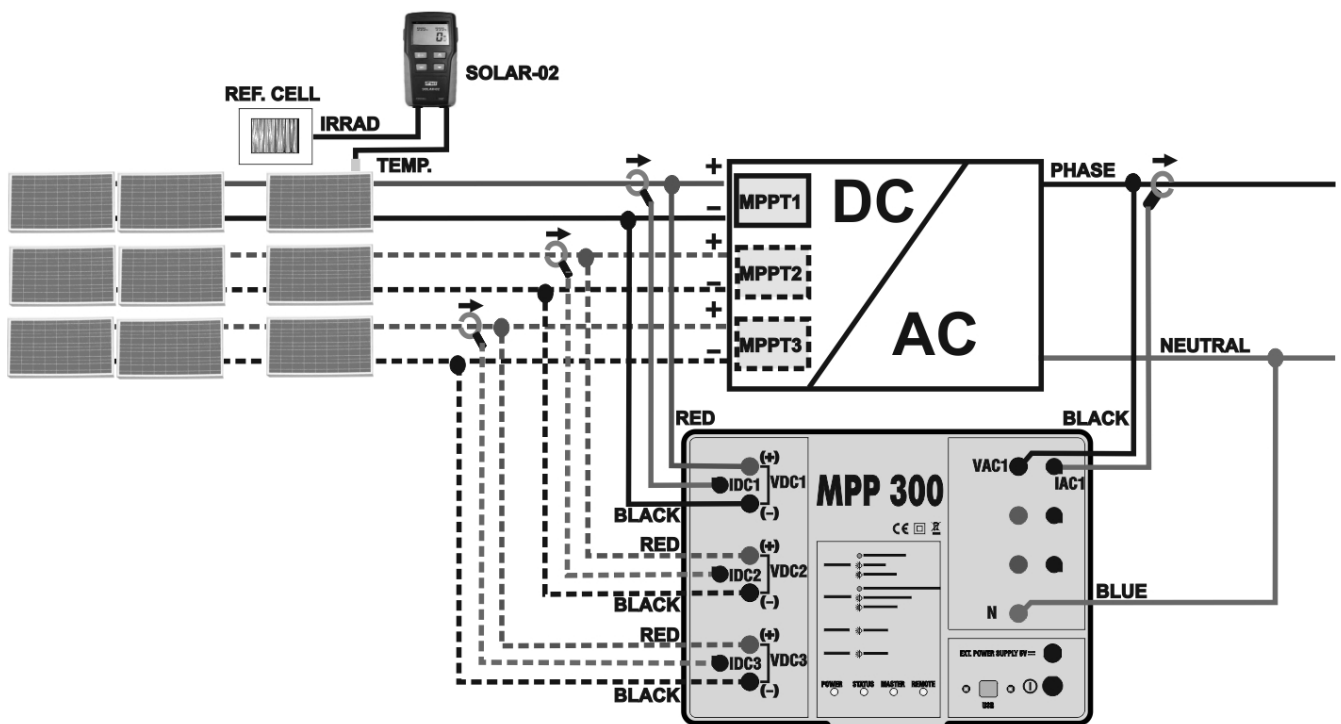
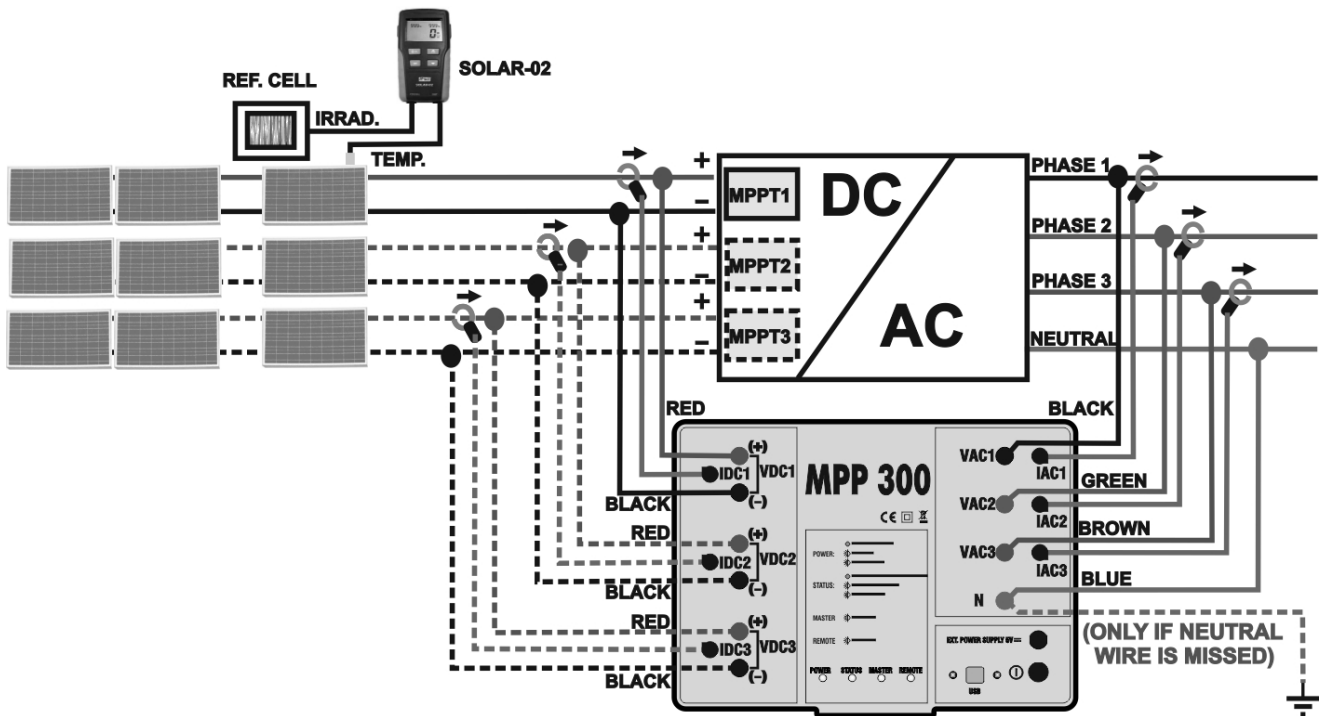

Fig. 2: Connection of MPP300 for testing a single-phase PV system
Fig. 3: Connection of MPP300 for testing a three-phase PV system
7. Connect the **VDC1(+)** and **VDC1(-)** inputs of unit **MPP300** to the output terminals of the string, respecting the polarities and the colors indicated in Fig. 2 or Fig. 3.
10. Insert the DC current clamp onto the positive output conductor of the string, respecting the direction of the arrow found on the clamp itself as indicated in in Fig. 2 or Fig. 3. Position the clamp toroid as far as possible from the inverter and from the negative output conductor of the string itself
12. Connect the VAC1 and N inputs of unit MPP300 to the Phase and Neutral conductors respectively, respecting the polarities and the colours indicated in Fig. 2 or Fig. 3. In case of three-phase systems in which no Neutral conductor is available, connect input **N** to earth
14. Connect the AC clamp to the Phase L1 conductor, **respecting the direction of the arrow** found on the clamp itself as indicated in Fig. 2 or Fig. 3. Position the clamp toroid as far as possible from the inverter and from the Neutral conductor. Connect the clamp output to the **IAC1** input of MPP300